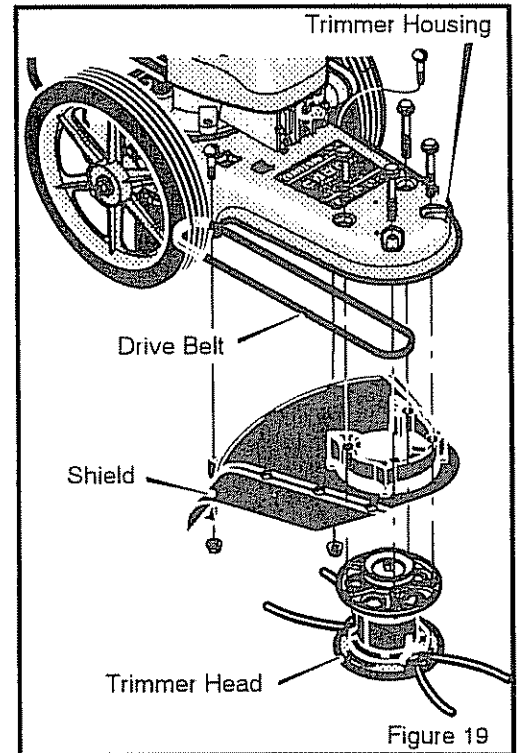

Figure 19
1. Remove the two fasteners that hold the rear of the **shield** to the **trimmer housing** (See Figure 19).